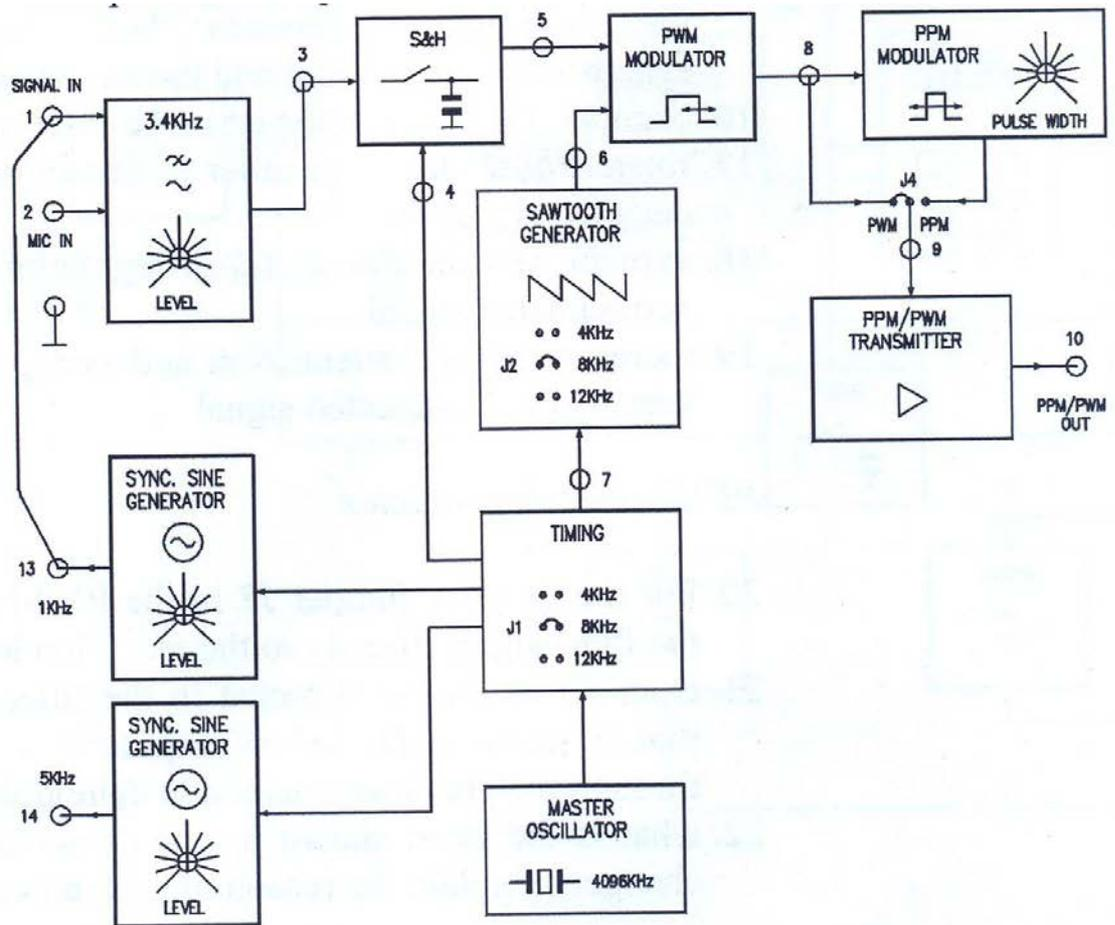

Figure 5.3: PWM Demodulation
- Connect the oscilloscope to TP6 and TP16 so to display the data signal and ASK signal wave form. See Figure 5.3.